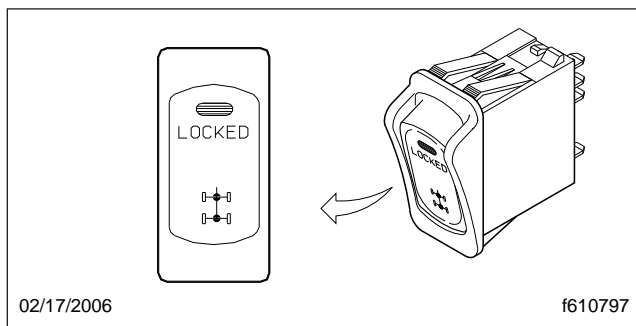

Fig. 5.19, Differential Lock on Both Axles
- one switch to control the differential lock on only one of the drive axles (this switch will show only one dot on one drive axle, varying slightly from the switch shown in Fig. 5.19).
- one switch to control the differential locks on both drive axles (Fig. 5.19).